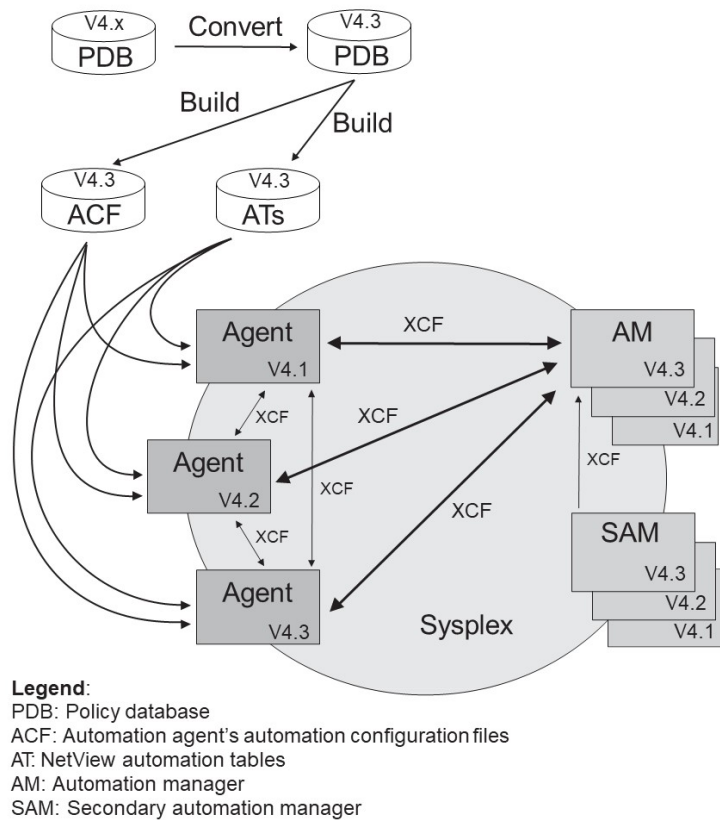

Figure 14. Coexistence of System Automation 4.3, 4.2, and 4.1
SA z/OS 4.3 systems can coexist with System Automation 4.2 and 4.1 systems in the same sysplex. Figure 14 on page 209 illustrates this coexistence: it shows a sysplex with three automated systems and a separate automation manager (AM) and its secondary automation manager (SAM).